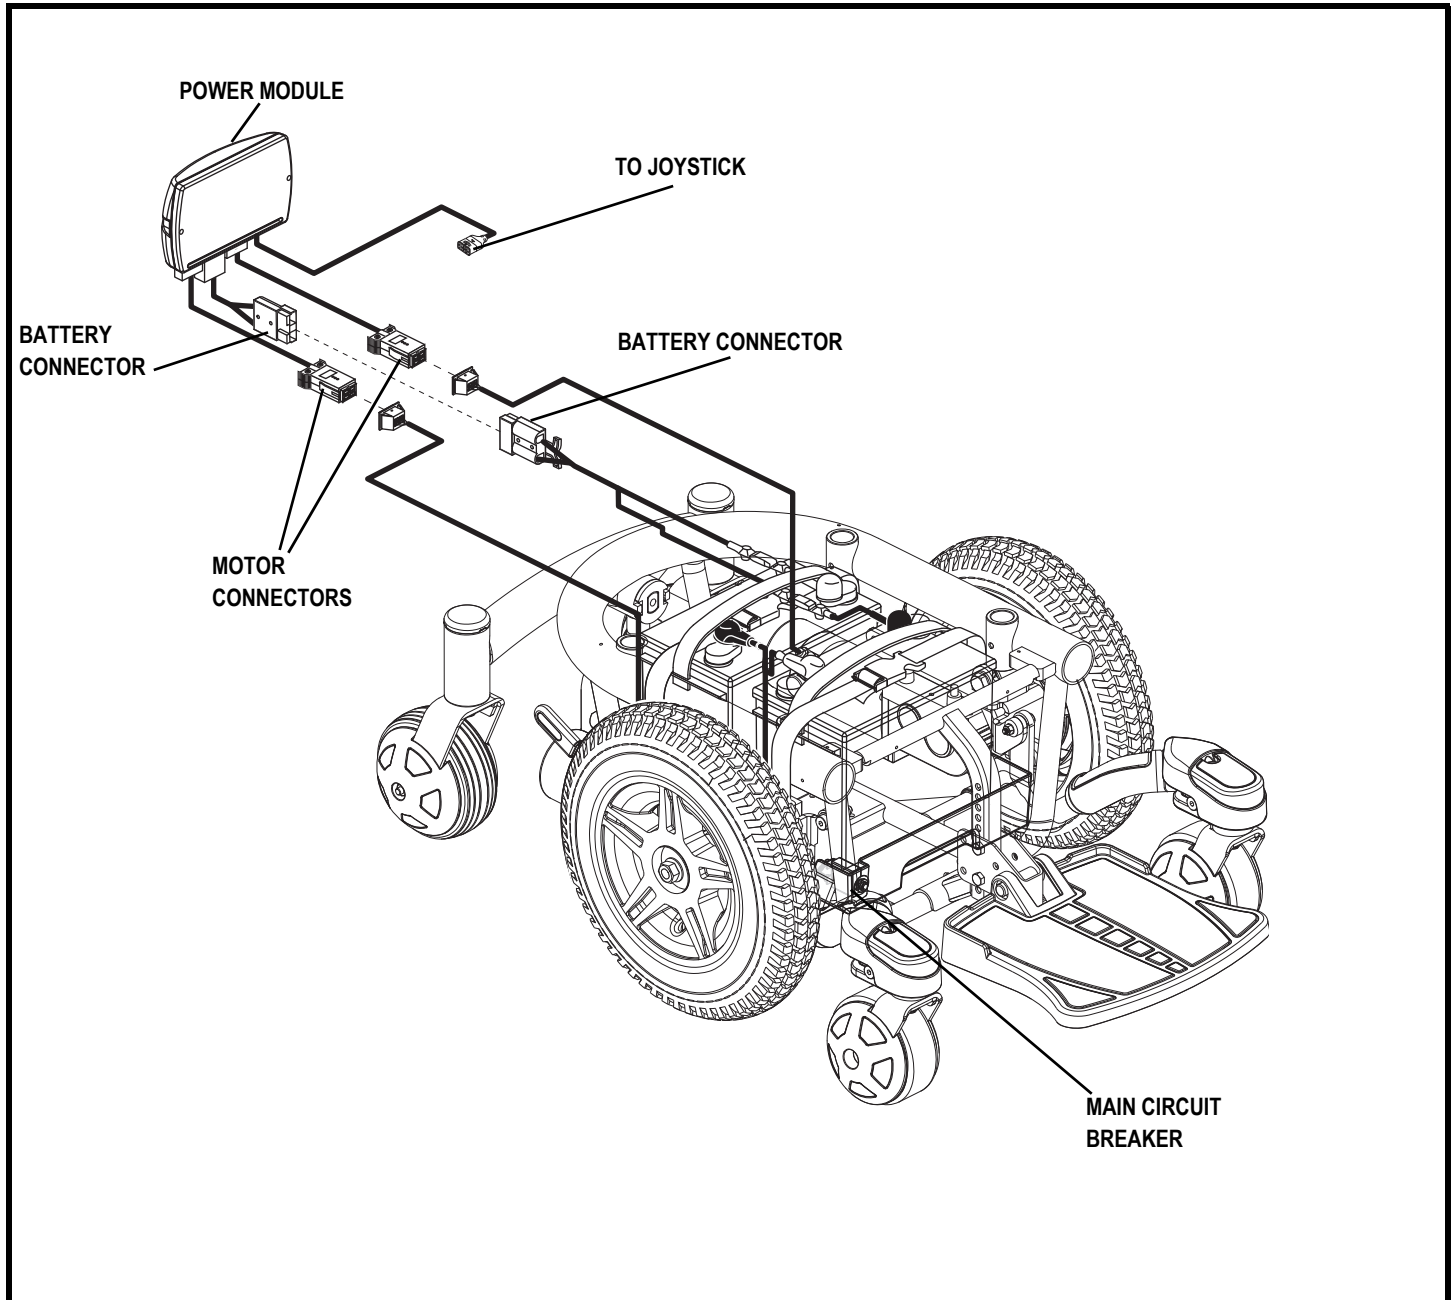

Figure 7. Jazzy 600 Series Electrical Components
The electrical components are located inside the power base. The main circuit breaker is located on the front of the battery tray. The controller connector(s) are located inside the power base. **See figure 7.**
8. Plug the controller connector(s) into the power base. See figure 7.
3. Disconnect the controller connector(s) from the power base. See figure 7.